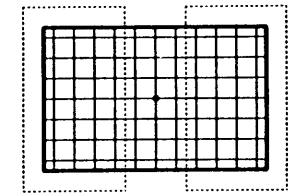

FIG. 13
24. RK72 controls the areas half way to the center and the sides. Adjust RK72 for optimum condition is these areas. See Fig. 13.